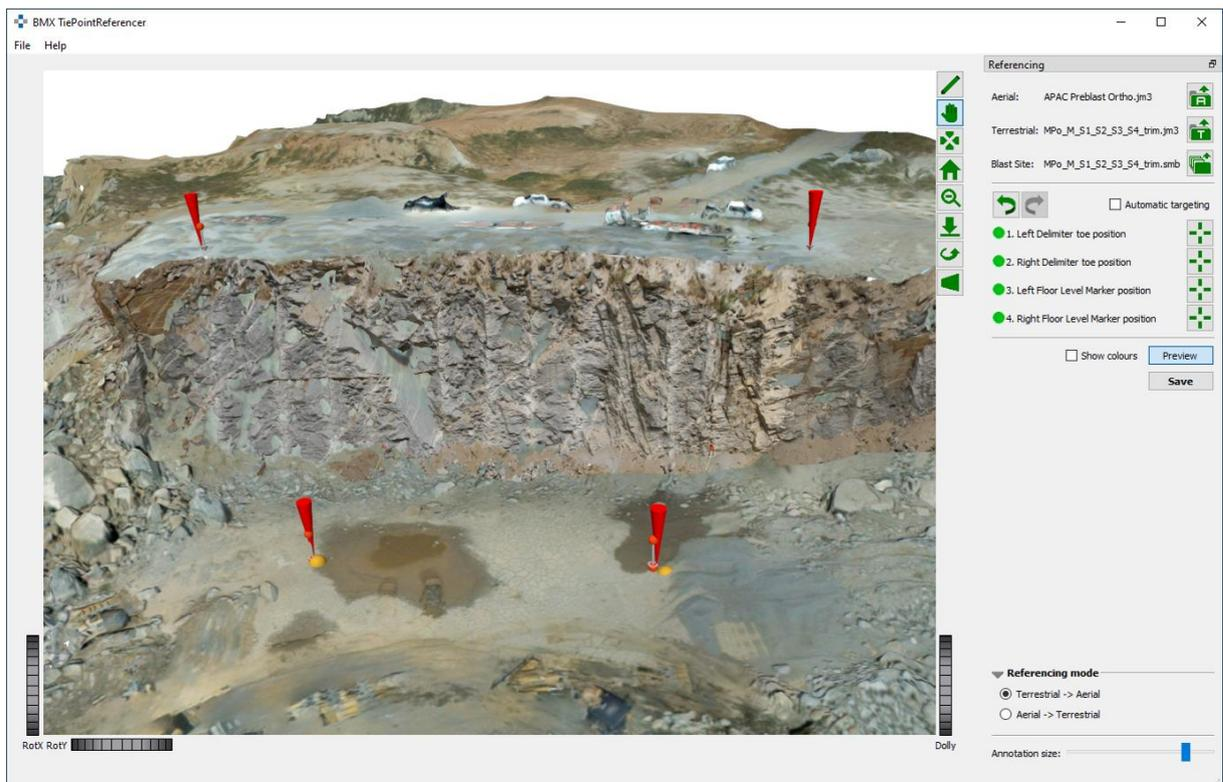

Figure 3: Terrestrial and Aerial 3D Model superimposed in the viewer
10. Click on "Preview"  button and the 3D models (terrestrial and aerial) appear superimposed in the 3D viewer (Figure 3).